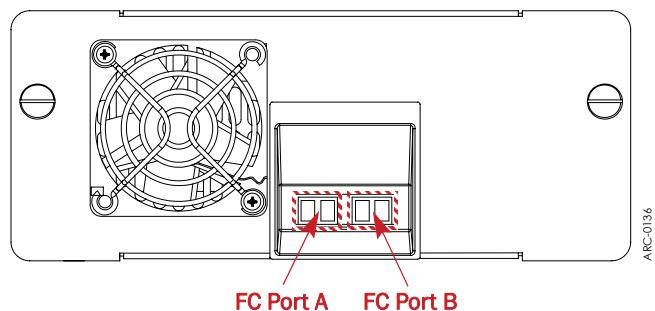

Figure 7. FC Drive Cover Assembly
1. Connect your **Fibre Channel cabling** to either of the FC ports and the other end to your system (Figure 7).